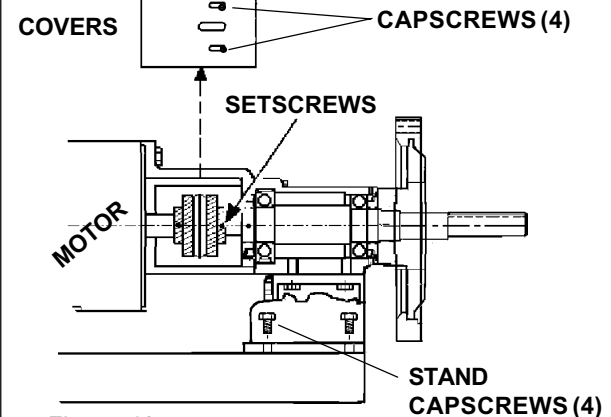

Figure 42
2. Remove the coupling covers (capscrews). Loosen the set screws on the pump coupling. Remove the stand to base capscrews. (Figure 42)